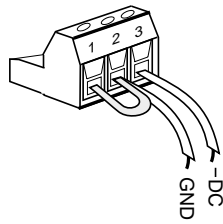

Figure 2 3-position terminal strip showing DC output connected for a positive ground scheme.
**3.7 SELECTING THE DESIRED DC OUTPUT SCHEME** As mentioned previously, the DC output is floating (isolated) in respect to earth ground. The DC output can be connected to the equipment to be powered in this manner, or it can be referenced to earth ground. In telecommunications applications it is typical to utilize a positive ground, with the output configured to be -24Vdc in respect to earth ground. This is easily accomplished by strapping terminal strip pin 1 (ground) to pin 2 (+DC) and using this combination as the ground connection to the load, shown in Figure 2 (on page 3). The -24Vdc is then connected from pin 3 (-DC) to the load. Note that pin 1 is internally connected to the Model 722 chassis and the safety ground wire of the power cord.